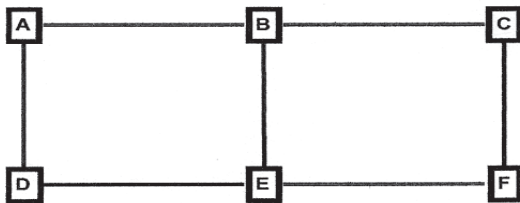

Figure 1
Going back to Figure 1 above, to satisfy the requirements, we would choose the loops (ABEF) and (BCDE), and not (ABCDEF). To clarify why this combination is preferable, look at the follow chart:
shot leading to it. For example, here is a Spanning Tree for Figure 1 above:
**Multiple Spanning Trees.** Another important aspect of spanning trees is that every graph can have more than one valid spanning tree. For example, here in another spanning tree for Figure 1:
**Depth First Search.** The Depth First Search explores by going to the “back” of the cave first and then working your way back forward. In other words, you do not linger at each station and you do not initially explore all branches. Instead, at each station, you pick the first passage you see and follow it deeper. You don’t back track until you reach the end of the cave. Here is an example of the a DFS spanning tree for Figure 1:
do this by checking all the branches off each station, before we move any deeper into the cave. For example, here is a Breadth First Search spanning tree for Figure 1.